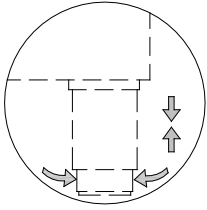

Figure 1
- Place the refrigerator on a flat level surface (use the adjustable feet)(Fig. 1)